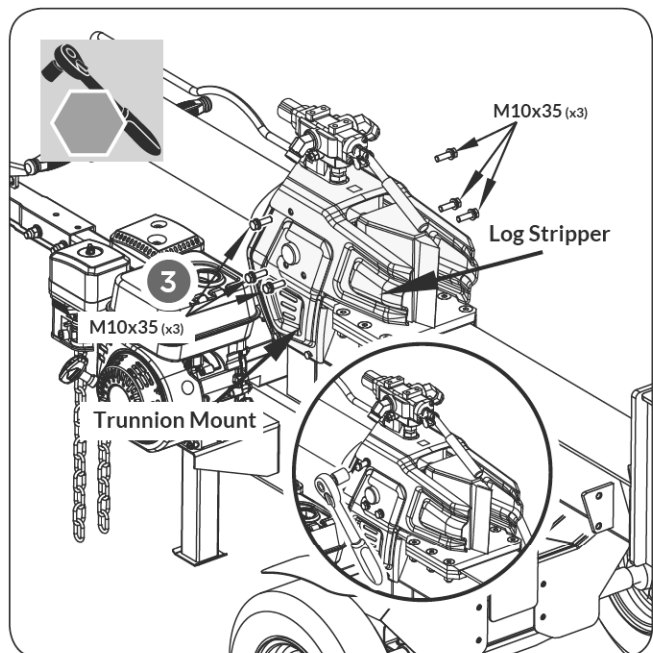

Figure 11c
3. Install the log stripper by tightening the M10x35 bolts, spring washers, and flat washers. (See **Figure 11c**) (YS3265 ONLY)